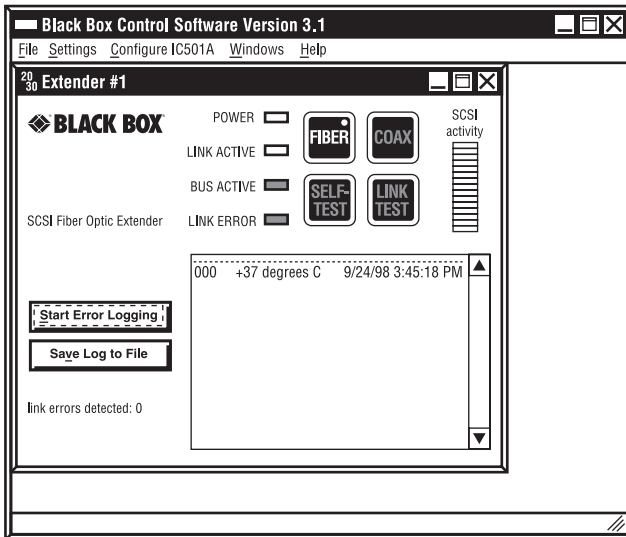

Figure 7-4. Error Logging screen.
- **Enable Error Logging:** When this option is checked, an expanded window will appear that allows errors to be noted and logged. No errors will be captured until you click the **Start Error Logging** button. Any time an error occurs, the error sequence number, along with the Extender's temperature and the date and time of the error, is recorded. After 254 errors, the log will no longer record new errors across the bus until the you click the **Start Error Logging** button again. Log files may be saved to text files by selecting the **Save Log to File** button. Figure 7-4 shows an example of what the software looks like with error logging activated: